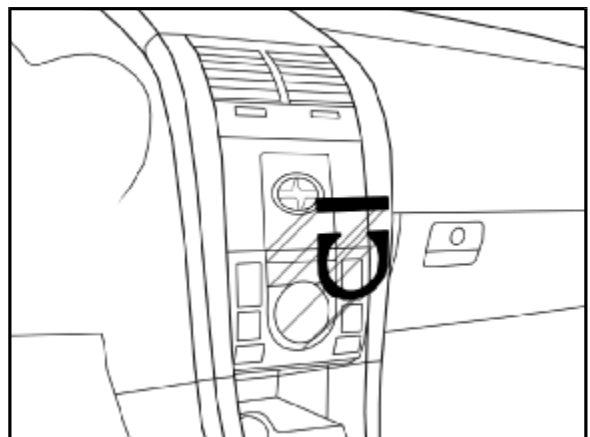

Fig. L1
- ⚠ A. Align part uniformly to edge of factory components. Edge of appliqué should be flush to edge of factory component, ±1.0mm. (Fig. L1).